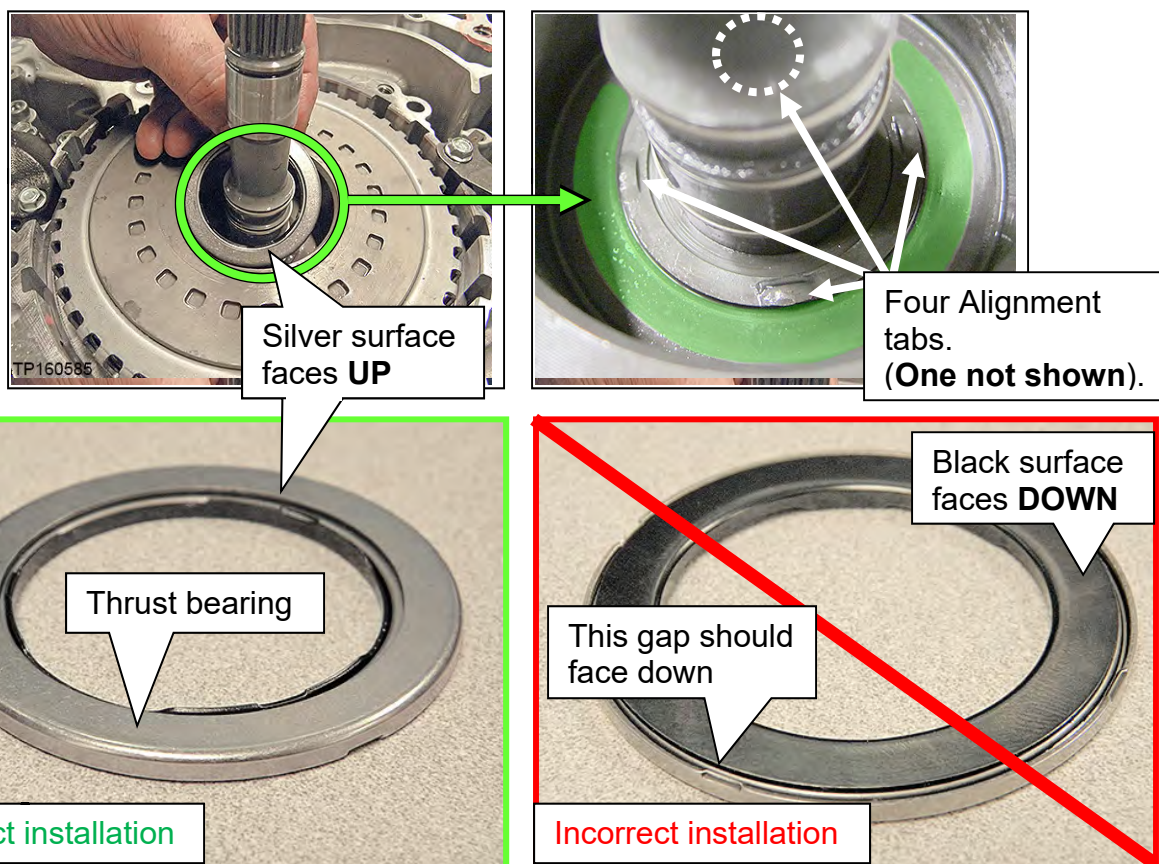

Figure 116
92. Install the thrust bearing flush to the clutch assembly bore as shown in Figure 116.